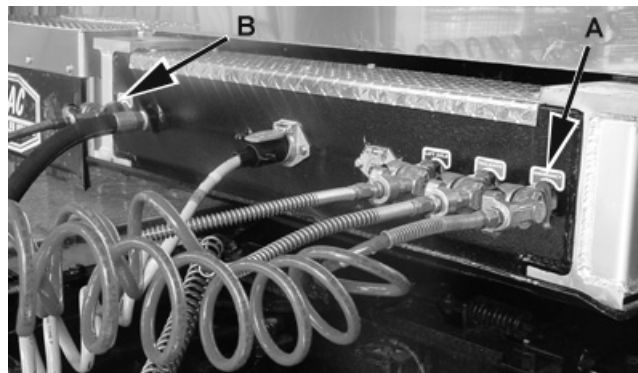

Figure 3-6 Connect Hoses And Electrical Connector
12. Connect the supply hose (A), service hose (B), hydraulic hose, electrical connector, and if equipped, connect hoses to the lift axle and tailgate glad hands. See figure 3-6.